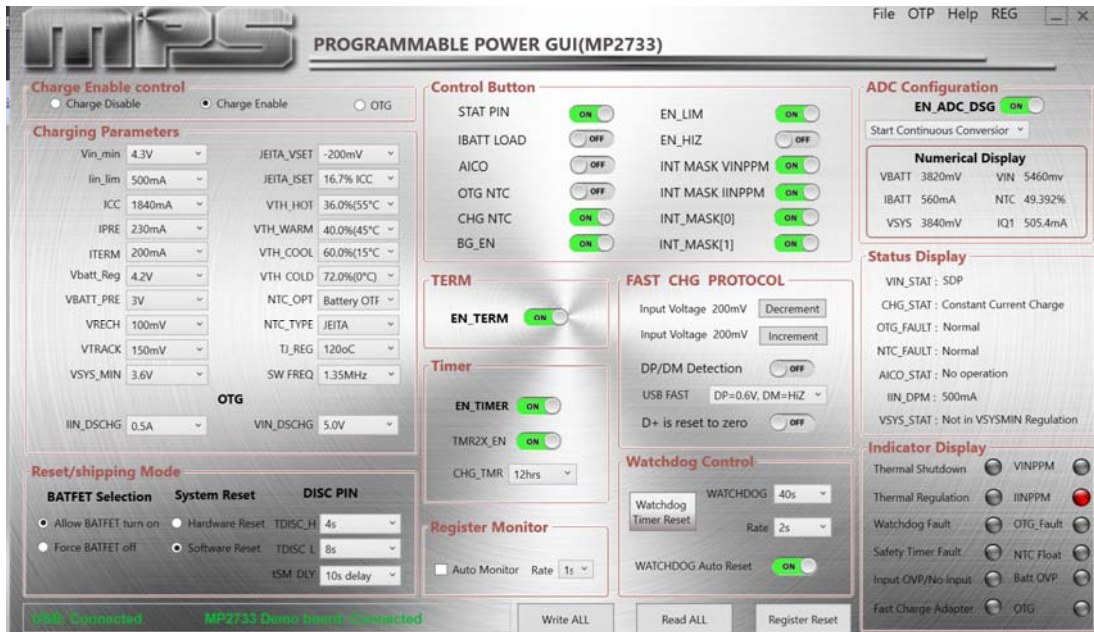

Figure 3: MP2733 Evaluation Software
- Turn on the computer, and launch the MP2733 evaluation software. Figure 3 shows the GUI software's main window.
- Ensure that all the connections are successful (the EVKT-USBI2C-02 and the EV2733-QC-00A are connected). Successful connections are indicated in green on the lower-left side of the window (see Figure 3). The program is ready to be run once all of the connections are successful.